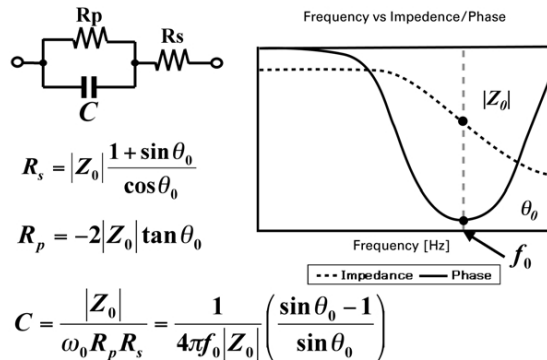

Figure 15. Minimum phase detection method
The minimum phase detection method is a new technique to obtain the parameters of the three-parameter model from the frequency characteristics of the $|Z|$ - q measurement. As shown in Figure 15, the capacitance values (C) can be calculated by frequency (f_0), phase (q_0), and impedance ($|Z_0|$) values at the minimum phase point. A constant DC bias voltage should be applied during the $|Z|$ - q measurement. In order to obtain a precise capacitance value, it is desirable to measure capacitance at the frequency where the dissipation factor (D) is the smallest. In other words, the loss of device becomes smallest at the minimum phase point. Eventually, the C-V characteristics plot can be obtained from several fixed DC bias $|Z|$ - q frequency sweeps.